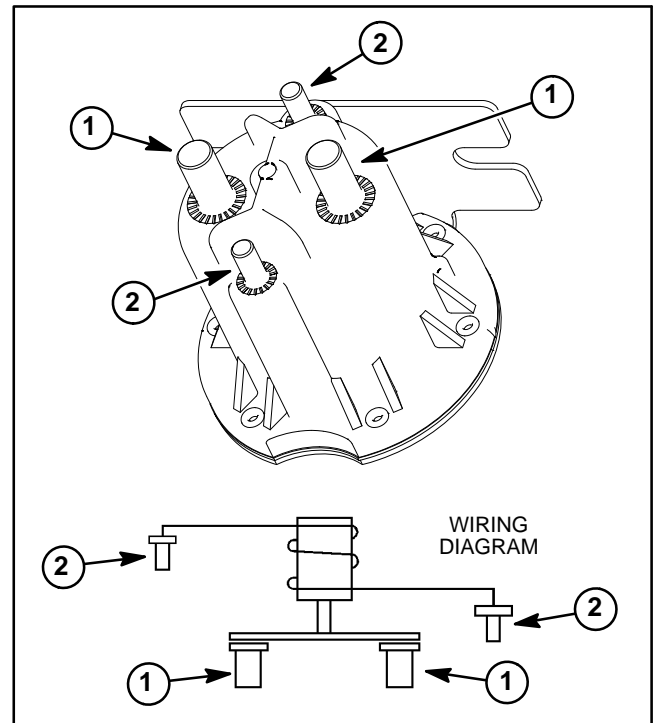

Figure 66
5. Using jumper wires, apply 48 VDC directly across the contactor coil posts (Fig. 66). The contactor should click as it is energized. With the contactor coil energized, resistance across the main contact posts should be less than **1 ohm**.
7. With voltage removed from contactor coil posts, measure resistance across the coil posts (Fig. 66). The coil resistance should be approximately **195 ohms**.